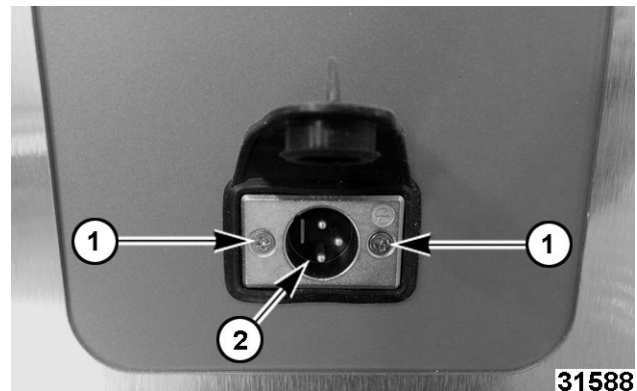

Fig. 48
4. Remove screws (1, Fig. 48), nuts (from behind), and probe socket from control panel.
6. Align prongs (2, Fig. 48) as shown so meat probe (1, Fig. 49) plugs in with cord down.